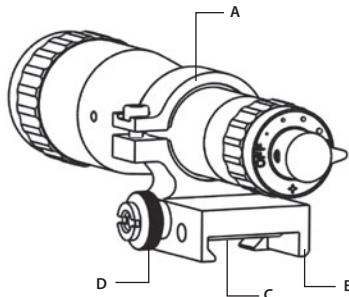

FIGURE 3-8. IR-850 ILLUMINATOR
The IR850 (Figure 3-8) is delivered ready-assembled with a dedicated mount, to be installed on the Weaver rail of the Vulcan or weapon. The mount clamp (A) has a spherical hinge that allows the IR850 to tilt.